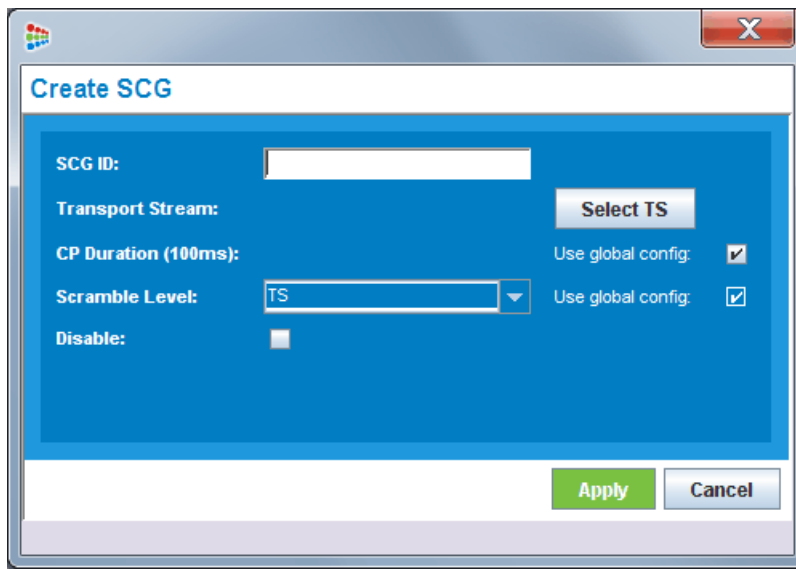

Figure 273. Create SCG dialog
2. The **Create SCG** dialog of Figure 273 opens: